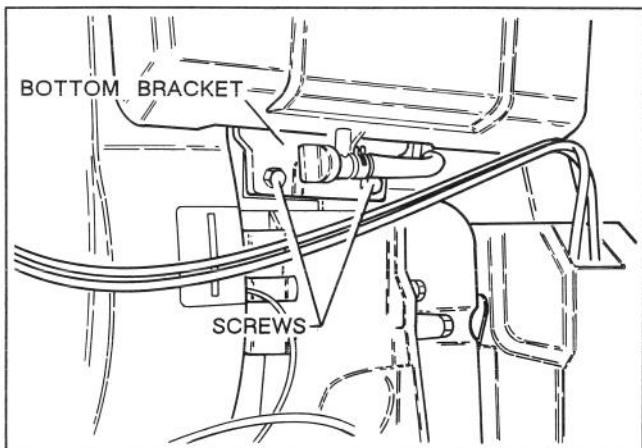

Figure 6
10. Remove (2) screws securing bottom fuel tank bracket to engine (Fig.6).